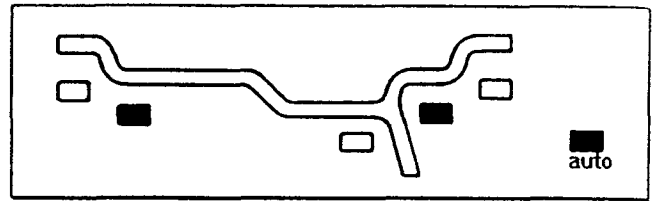

Fig.35
**E. AUTO ALU1.** The wheel weights position is as indicated in Fig.35. In this case use tape weights.